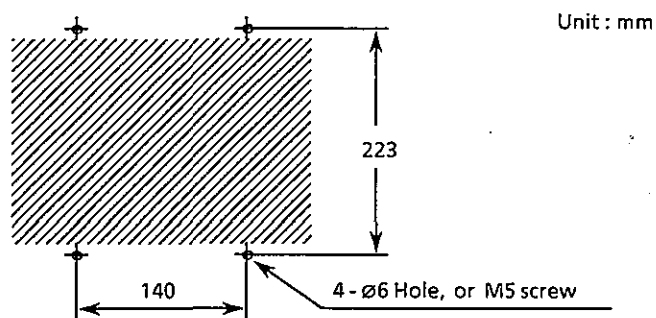

Figure 3.13 Mounting hole
- (1) Make a hole in the wall as illustrated in Figure 3.13.